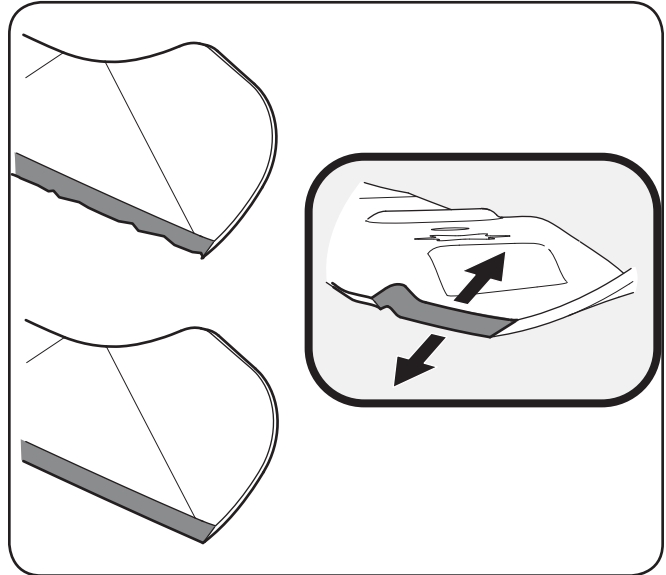

Figure 7-7
4. To properly sharpen the cutting blades, remove equal amounts of metal from both ends of the blades along the cutting edges, parallel to the trailing edge, at a 25°- to 30° angle. Always grind each cutting blade edge equally to maintain proper blade balance. See Figure 7-7.